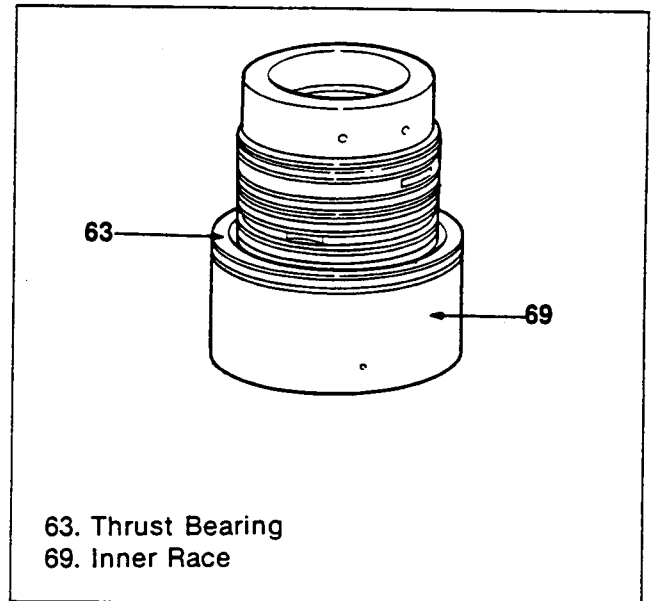

Figure 54. Low One-way Clutch Inner Race Inspection
3. Remove the thrust bearing (figure 54).
Inspect (Figure 54)